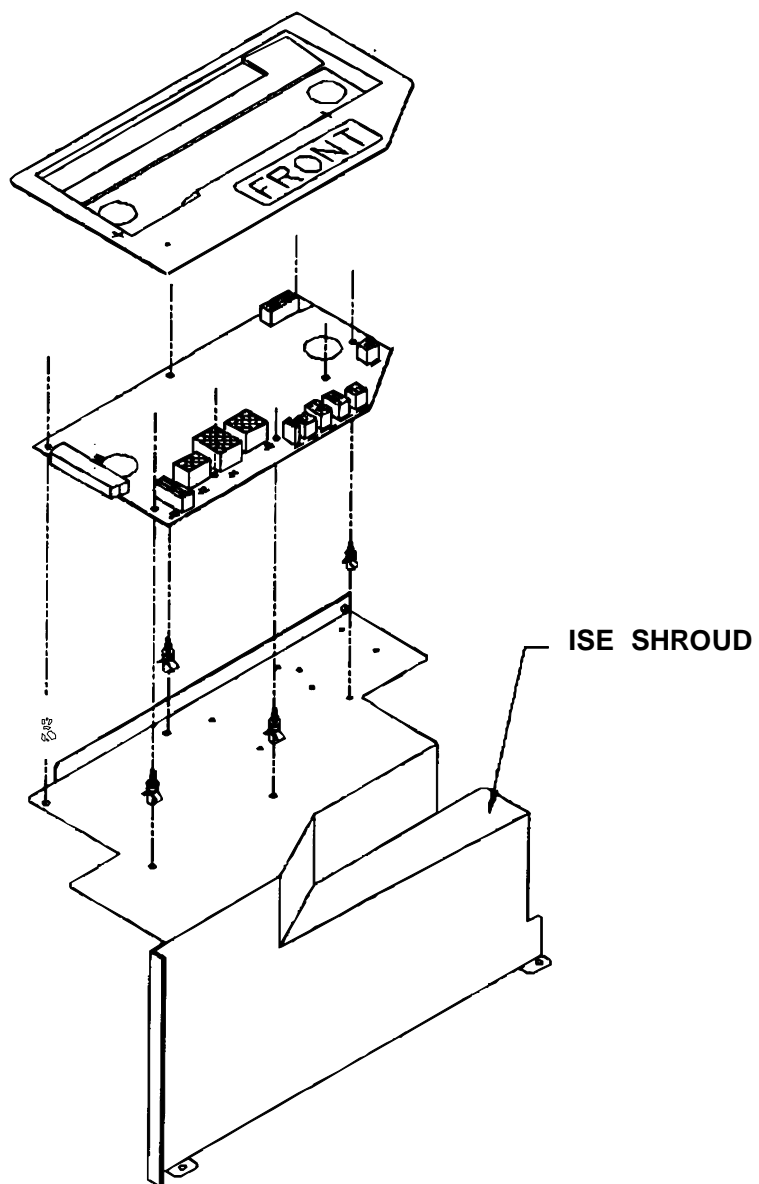

Figure 3
11. After connecting all of the plugs to the jacks install the shield over the Pump and Valve / HomeStation PCB as illustrated in Figure 3.